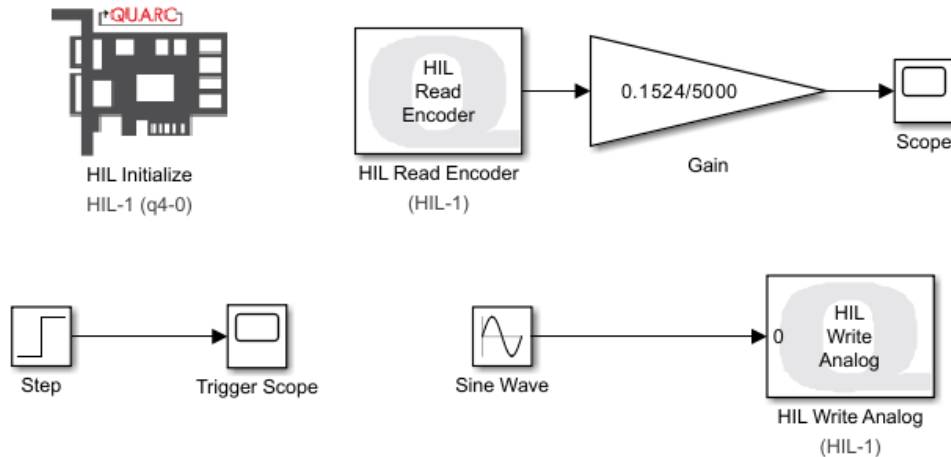

Figure 12: SIMULINK Loopback System
1. Generate the SIMULINK diagram shown in Figure 12. The Sine wave should have a relatively low magnitude of around 2 and a frequency of around 1 Hz.